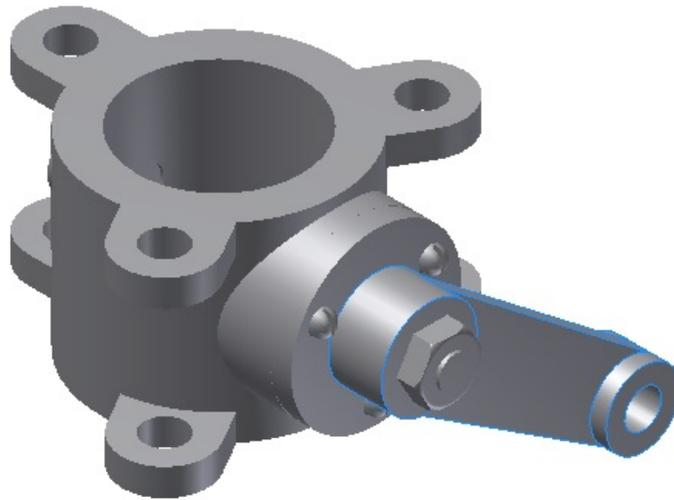

Figure 9-75 Final Butterfly Valve assembly
6. Select the end face (not on the side of the chamfered edge) of the threaded feature of the Shaft. Choose the **Apply** button to apply the constraint and then choose **Cancel** to exit the dialog box. The final Butterfly Valve assembly is shown in Figure 9-75.